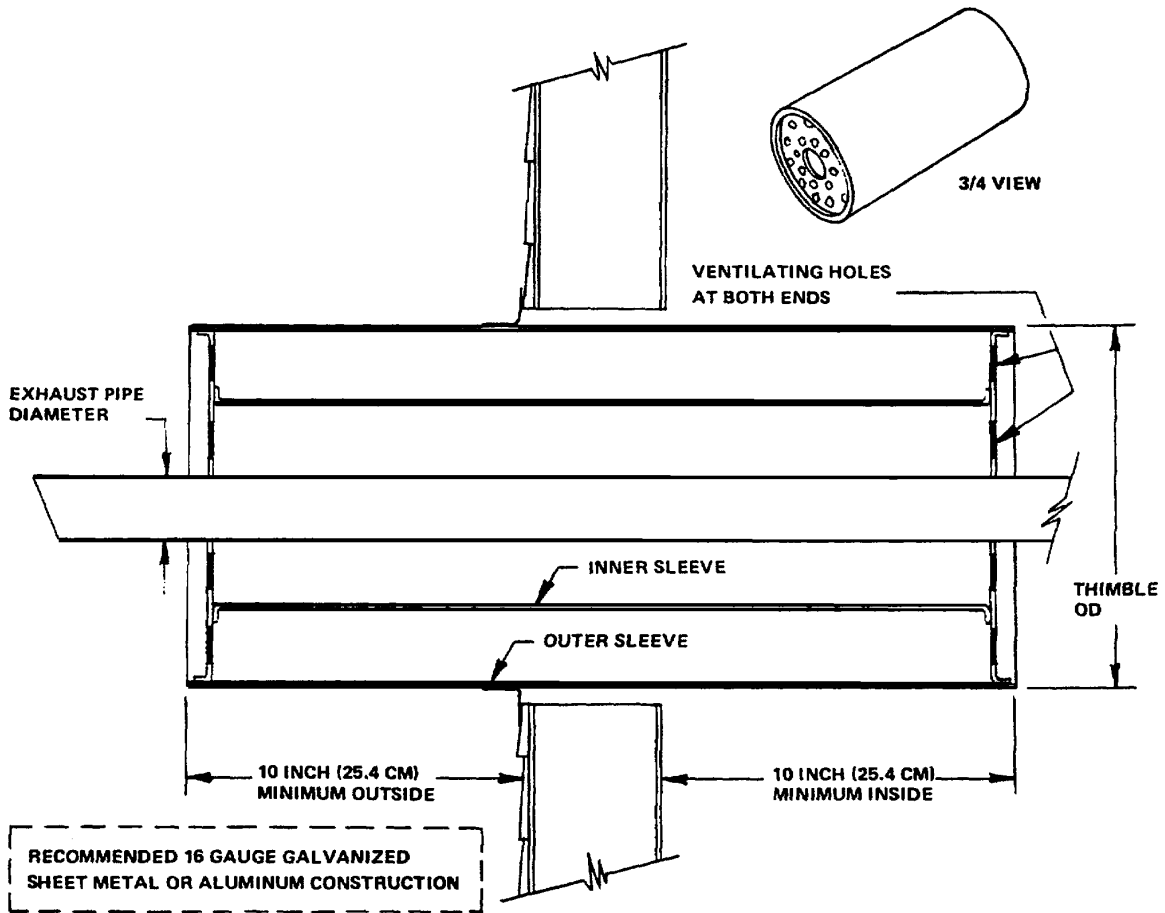

Figure 17-20. Double Thimble-Wall Outlet Details
**17-74.** The engine exhaust manifold should be connected to the exhaust piping with a flexible exhaust connector (see figure 17-20). The flexible exhaust connector provides a means of taking up thermal growth of the exhaust system due to the hot exhaust gas and absorbing vibration.
**17-76.** Exhaust piping passing through combustible walls or partitions shall be guarded at the point of passage by a metal ventilated thimble not less than 12 inches (30.5 cm) larger in diameter than the exhaust pipe or metal or burned fire clay thimbles built in brickwork providing not less than 8 inches (20.3 cm) of insulation between the thimble and combustible material (see figure 17-20). Exhaust pipes must not terminate near inlet vents of any type or near combustible materials.